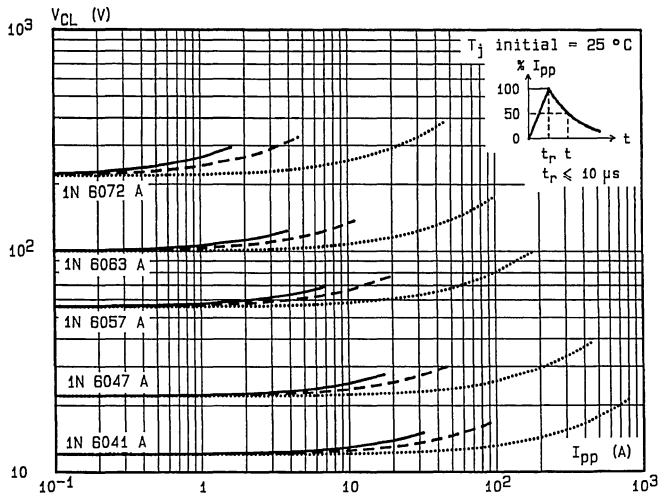

Fig. 2 - Clamping voltage versus peak pulse current.
Note : The curves of the figure 2 are specified for a junction temperature of 25 °C before surge. The given results may be extrapolated for other junction temperatures by using the following formula : $\Delta V (BR) = \alpha T (V (BR)) \times [T_j - 25] \times V (BR)$